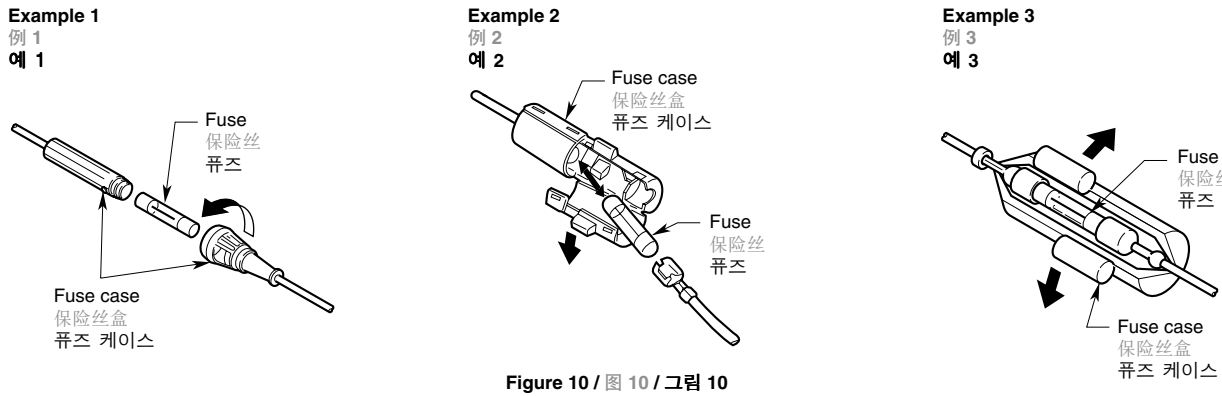

Figure 10 / 图 10 / 그림 10
4. To replace the fuse, open the lock on the source unit side, remove the old fuse and insert the new one. (Figure 10)
如果接线正确，则请用与原来保险丝额定安培数相同的新保险丝更换。（图 10）